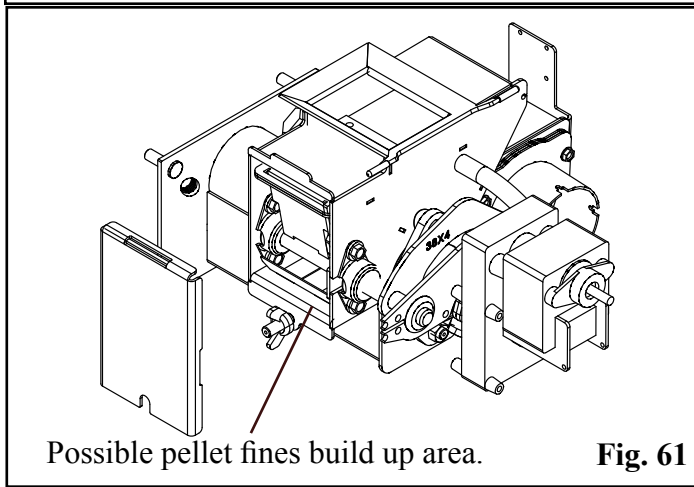

Fig. 61
## Feeder Chamber (Fig. 61):
- Inspect and clean the inner chamber if necessary. See Fig. 61.